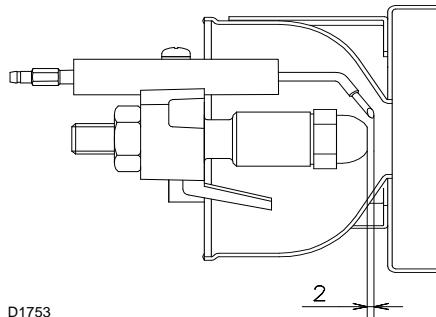

Fig. 13
- Make sure that the electrodes are positioned as shown in Fig. 13.